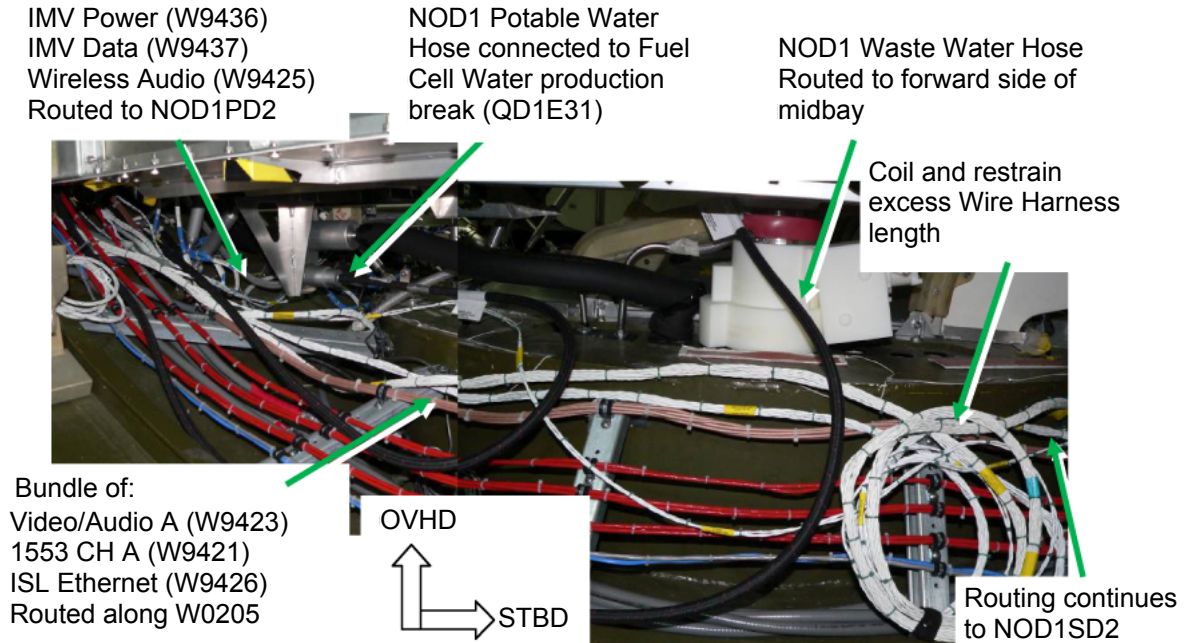

Figure 26.- Routing of Cables/Hoses in Nadir Midbay (View Looking Forward, B9 Mockup).
Refer to Figure 26.
- 15.22 Route NOD1 ISL Ethernet Cable (W9426) along W0205, gathering excess wire length near center of Midbay. Coil excess wire length, maintaining minimum bend radius of six times the harness diameter. Coiled Wire Harness may cross any other Wire Harness without EMI risk. Restrain Wire Harness to secondary structure (Cable Ties). Refer to Figure 26.
- 15.37 Route NOD1 Video/Audio Bus A Cable (W9423) along W0205, gathering excess wire length near center of Midbay. Coil excess wire length, maintaining minimum bend radius of six times the Harness diameter; coiled Wire Harness may cross any other Wire Harness without EMI risk. Restrain Wire Harness to secondary structure (Cable Ties). Refer to Figure 26.